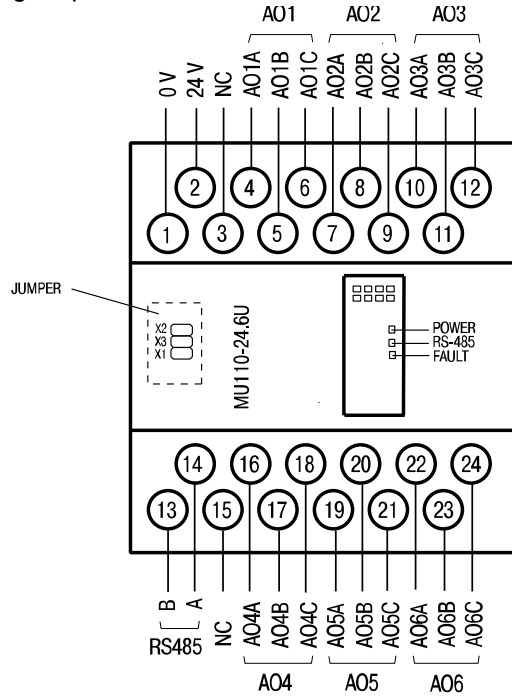

Fig. 4.1 Electrical connections
There are three jumpers under the front cover (see Fig. 4.1):
- The electrical connections are shown in Fig. 4.1 and 4.2, the terminal assignments in Table 4.1.
- Open the front cover (see Fig. 4.1)